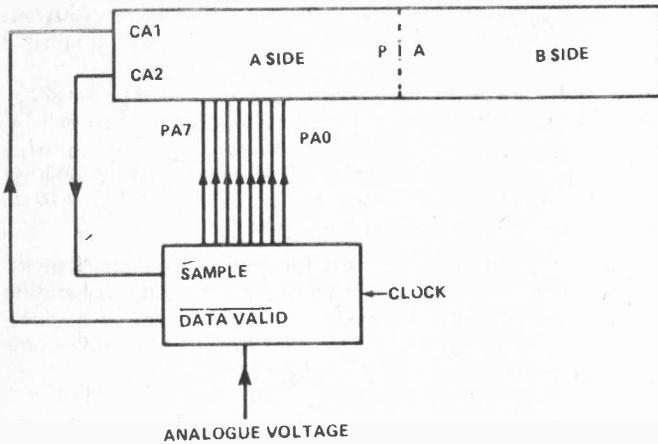

Figure 4 Interface to A/D converter.
To introduce a more practical bias, we shall assume an 8 bit resolution Analogue to Digital Converter IC is to be connected to the A side PIA with interface lines as shown in Figure 4.
The electrical output of most transducers is low, probably in the millivolt or even microvolt order so the first step is to amplify (normally by an OP AMP) to bring it up to a suitable level. There is still another step however because the voltage is still an analogue of the physical quantity, ie, it is a smoothly varying voltage instead of the two-state nature acceptable to the PIA. The final component in the change is therefore some form of analogue to digital converter to change a voltage level into a binary number proportional to the level. A/D converters are in most cases "eight-bit" resolution which implies that an analogue voltage can be digitised into 2⁸ (256) increments, (See Figure 4 previously).
the system may take a few more bytes than the straightforward method shown earlier in Figure 4 but six PIA wires (PA2 to PA7) have been freed.